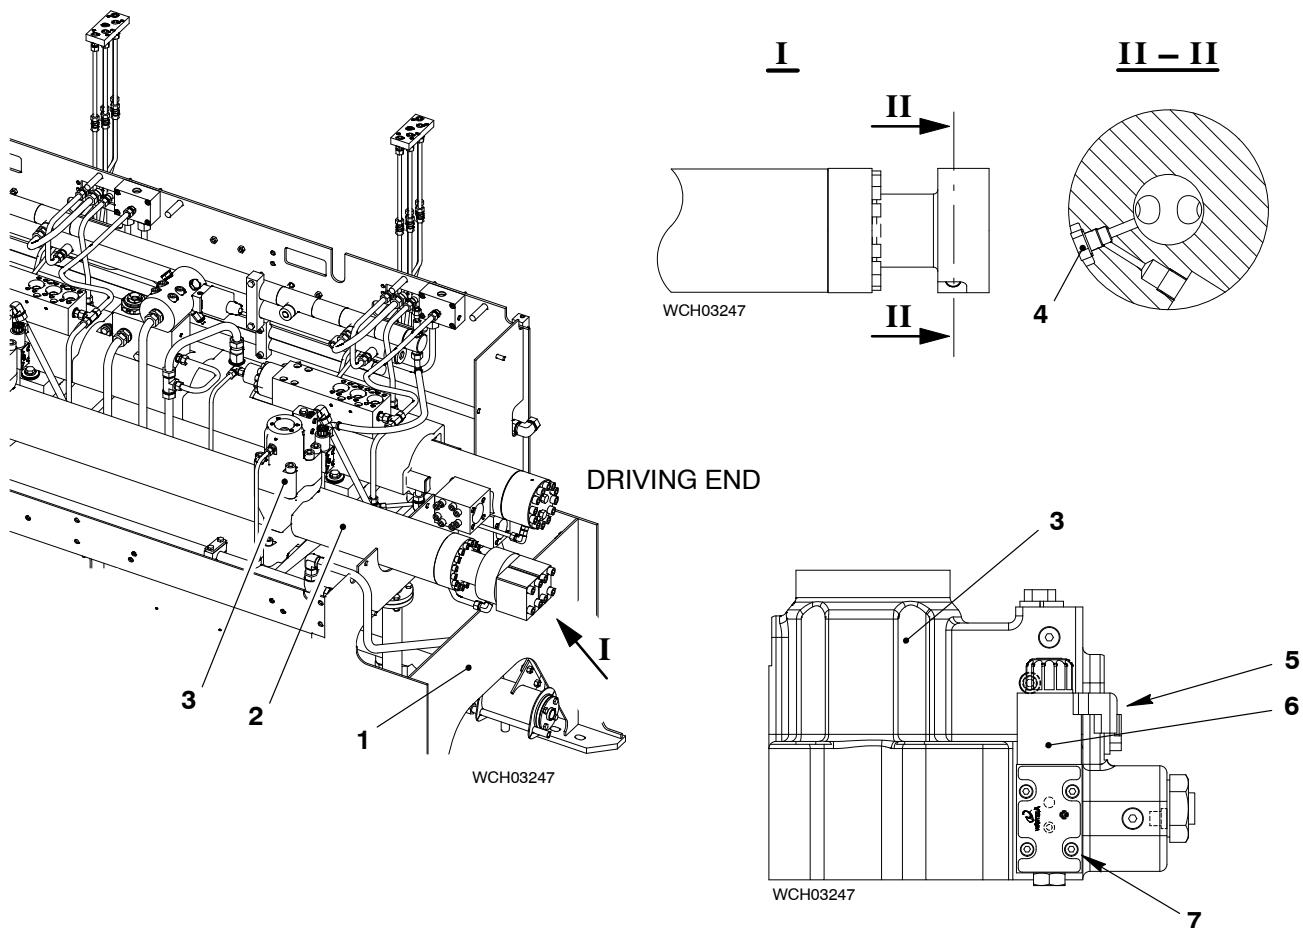

Fig. 7: Servo oil and VCU
Replace the defective solenoid valve (6, Fig. 7) on the VCU as soon as possible.
- d) Disconnect the electrical connection (5) from the 4/2-way valve (6, Fig. 7) of the related cylinder.